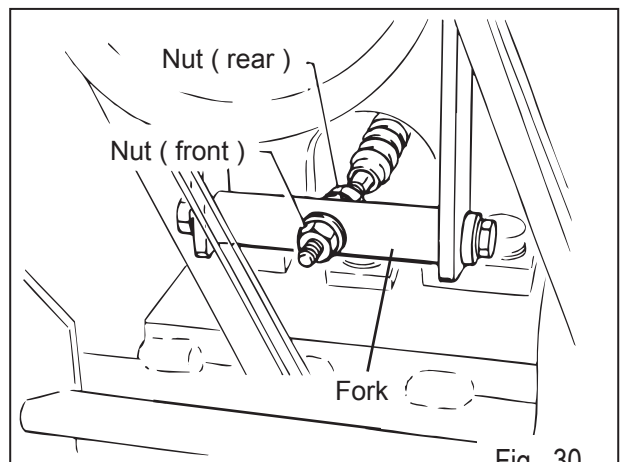

Fig. 30
12.7 Vibration Clutch Adjustment (Fig.30,31)